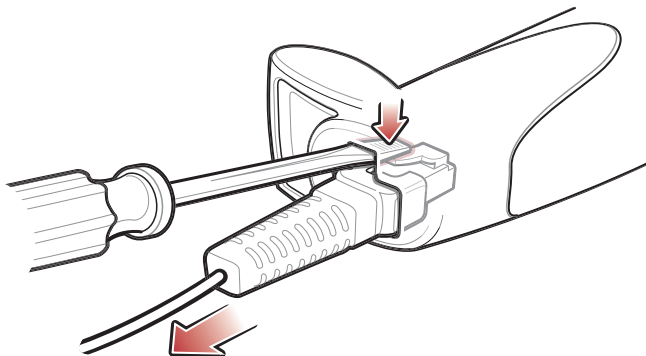

Figure 1-4 *Removing the Cable*
3. Using the tip of a screwdriver, depress the cable's modular connector clip. See Figure 1-4.